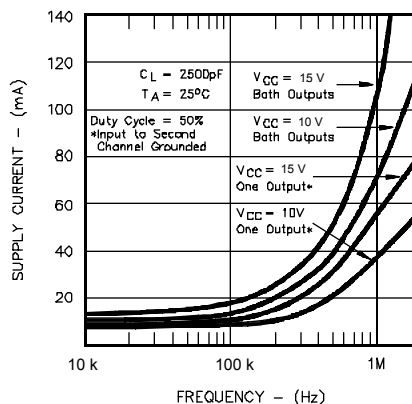

Figure 11 · Supply Current vs. Frequency
1. From Figure 11, the average driver current consumption under these conditions will be 18 mA, and the power dissipation will be 15 V x 18 mA, or 270 mW.